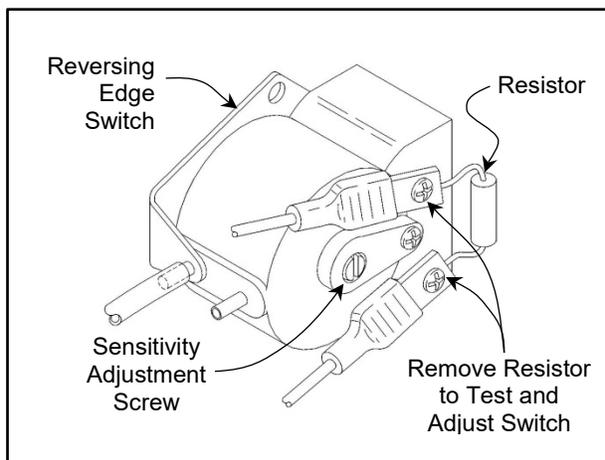

Figure 31
1. The reversing edge switch is a normally open contact. The PVC hose is on the lower air input post. To adjust the switch, first remove the resistor from the contact terminals and attach an ohmmeter across the two terminals. (See Figure 31)
2. Turn the sensitivity adjustment screw clockwise until continuity is achieved. Then turn the sensitivity screw 2 full turns counterclockwise for a standard setting. Some doors may require a further adjustment counterclockwise. (See Figure 31)